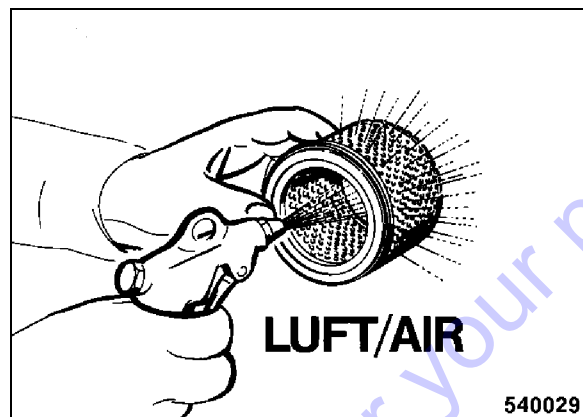

Fig. 65
- In case of dry fine dust blow out the filter cartridge carefully from inside to outside with dry, clean compressed air (Fig. 65) (max. 6 bar (87 psi)).